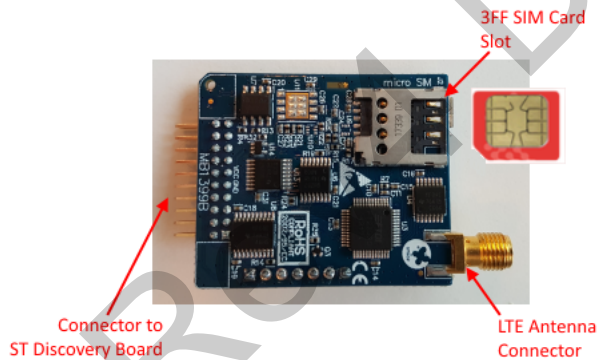

Figure 1-2: Connectors, Bottom View
2. Insert your SIM card in the SIM slot as shown on Figure 1-2 on page 2.